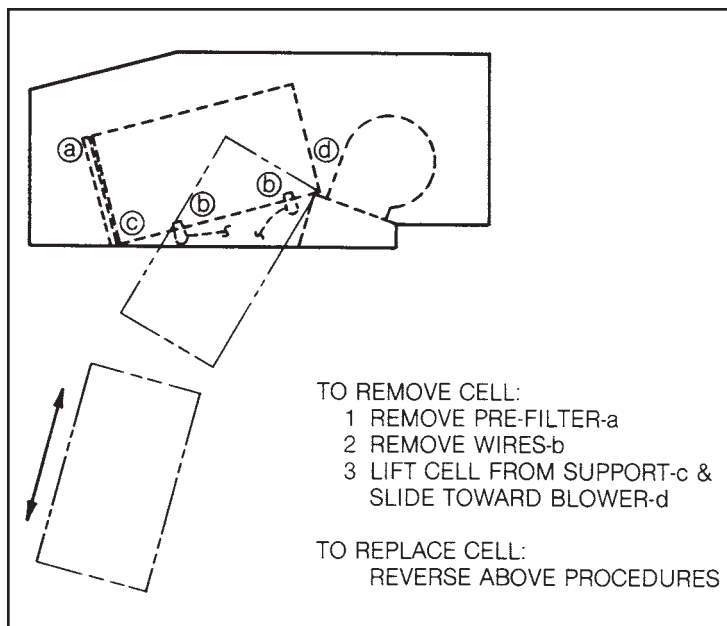

FIGURE 11
- Install unicell (see Figure 11).
- Remove the unicell from the cabinet (see Figure 11).